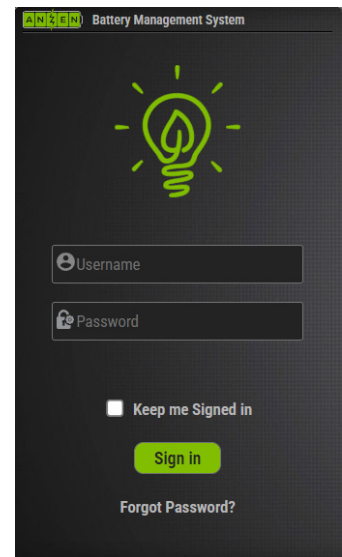

Figure 11 - Login Screen.
- a. Sign in (Figure 11) using your assigned credentials for access. (e.g. user1@userdomain.com)